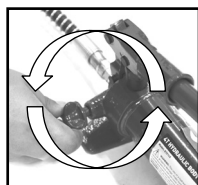

Fig.5
1. Once the product is assembled, open the release valve by rotating it 1-1/2 turns, counter-clockwise (Fig 5).